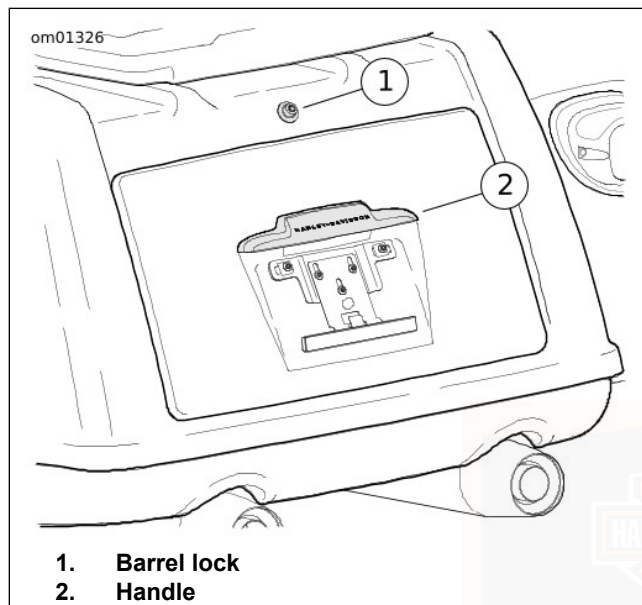

Figure 59. Trunk (typical)
2. See Figure 59. Push in the barrel lock to unlatch door. Pull handle to open trunk door.